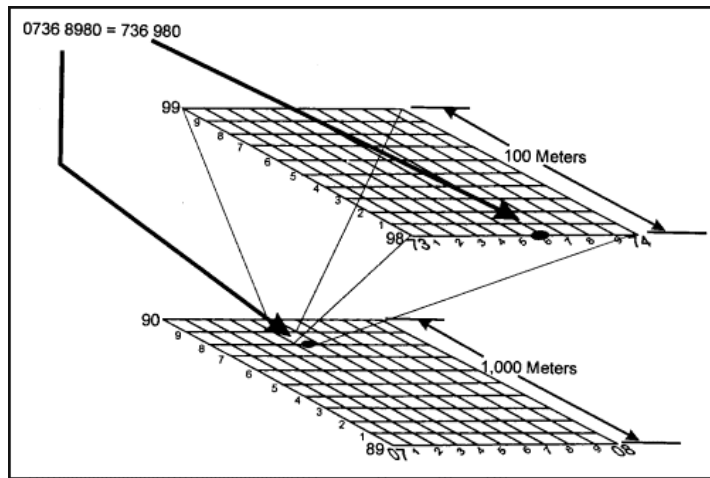

Figure A-22. Converting 1:50,000 grid to 1:5,000 grid.
b. Determine the 8-digit grid coordinates to the mortar position on a 1:50,000-scale military map and convert it to a 1:5,000 scale (Figure A-22).